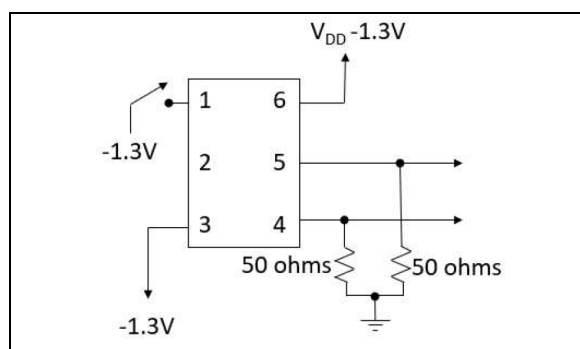
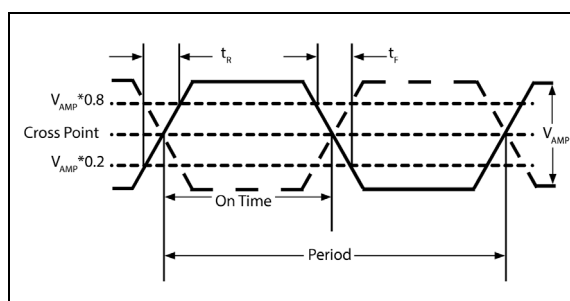
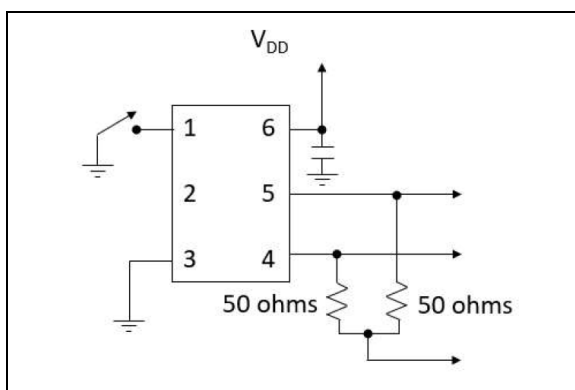

FIGURE 1-1: LVPECL Test Circuit.
FIGURE 1-2: LVPECL Output Rise/Fall Time.
FIGURE 1-3: LVDS Test Circuit.
- 3:** Figure 1-1 defines the test circuit and Figure 1-2 defines these parameters.
- Note 3:** Figure 1-1 defines the test circuit and Figure 1-2 defines these parameters.
- 3:** Figure 1-3 defines the test circuit and Figure 1-2 defines these parameters.
- Note 3:** Figure 1-3 defines the test circuit and Figure 1-2 defines these parameters.